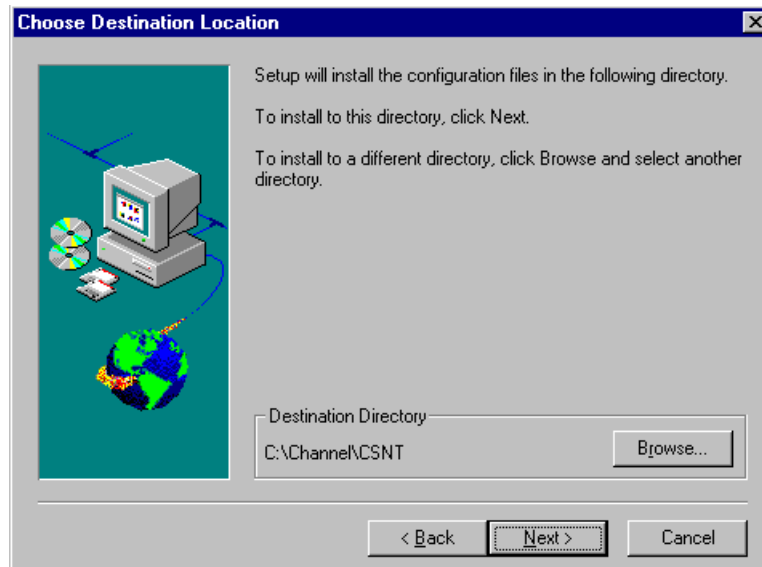

Figure 7-4. Choose Destination Location Screen
4. The next screen to display allows you to choose a directory where Data Link Control will be installed (Figure 7-4). The default directory is "C:\Channel\CSNT". You may use the **B**rowse button to select a different directory. Once the directory is defined to your satisfaction, click on **N**ext to continue the installation.